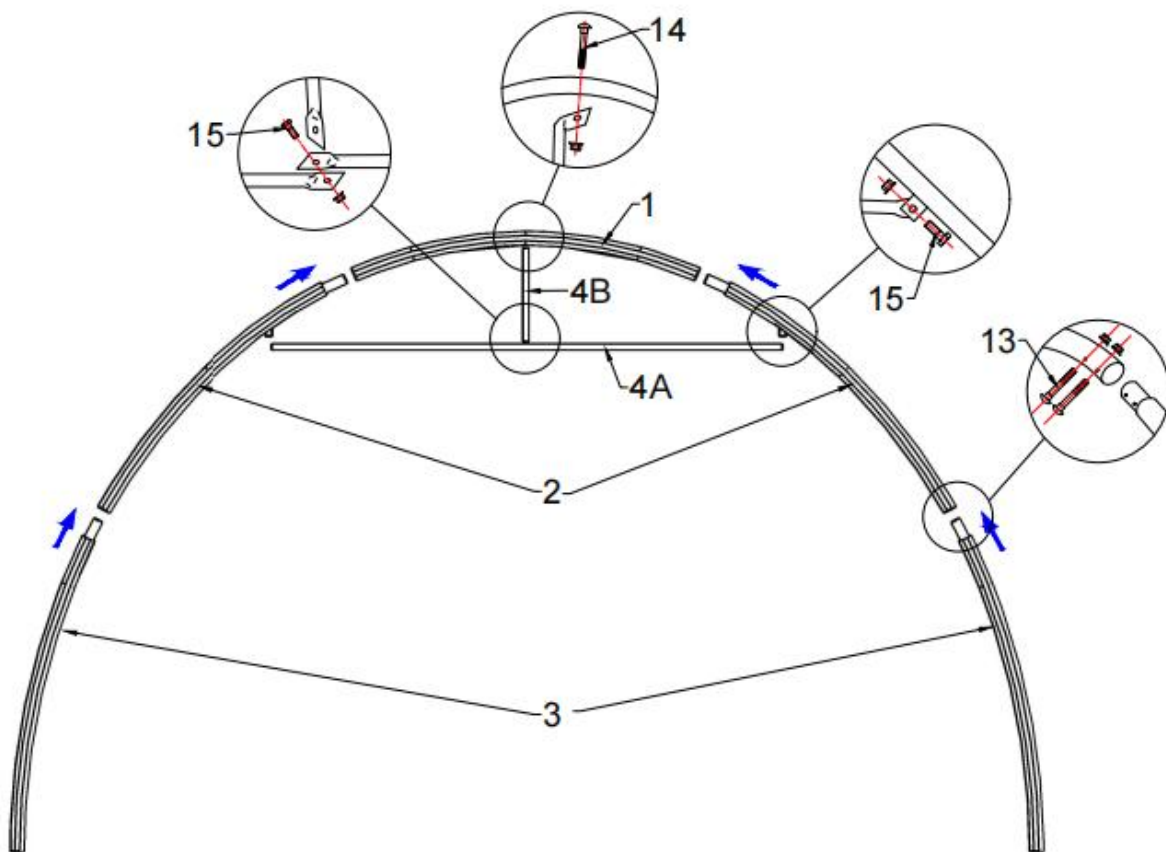

Figure 2
3.1 As **Figure 2** shown to find one Roof Bent Tube (No.1), two Middle Bent Tubes (No. 2), Lower Bent Tube (No. 3) and assemble every group arch with Bolt M8x60 (No.13). DO NOT install the screw on the top of the truss where the fabric will rest.